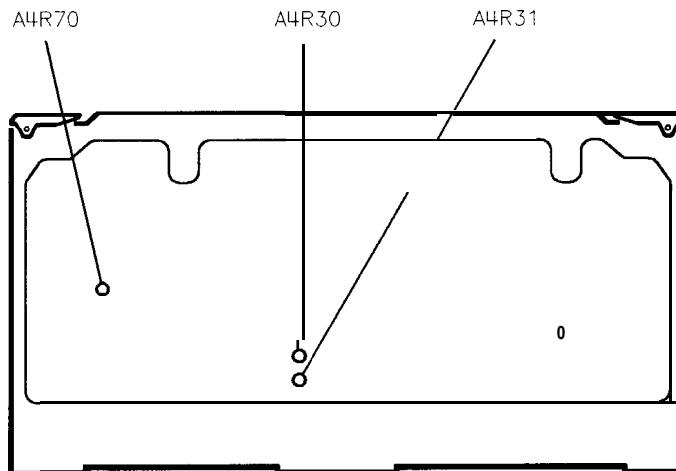

Figure 3-6. Fractional-N Reference and API Spurs Adjustment Locations
5. On the synthesizer, adjust **A4R70** (see Figure 3-6) for minimum signal on the spectrum analyzer.
8. On the synthesizer, adjust A4R31 (see Figure 3-6) for minimum signal on the spectrum analyzer.
11. On the synthesizer, adjust A4R30 (see Figure 3-6) for minimum signal on the spectrum analyzer.